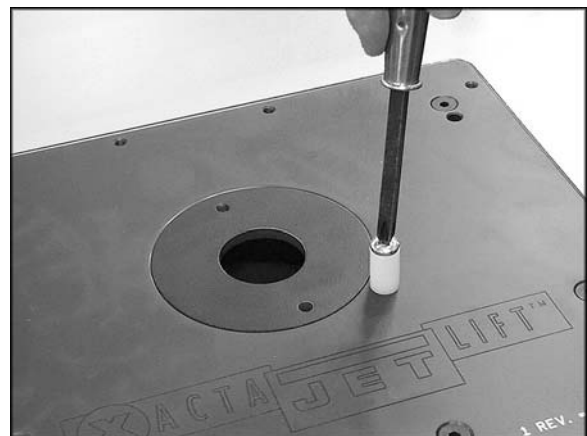

Figure 18
- A starting pin is provided to assist in certain freehand operations when the fence is not used. Thread the pin into the router plate with a screwdriver (Fig. 18).